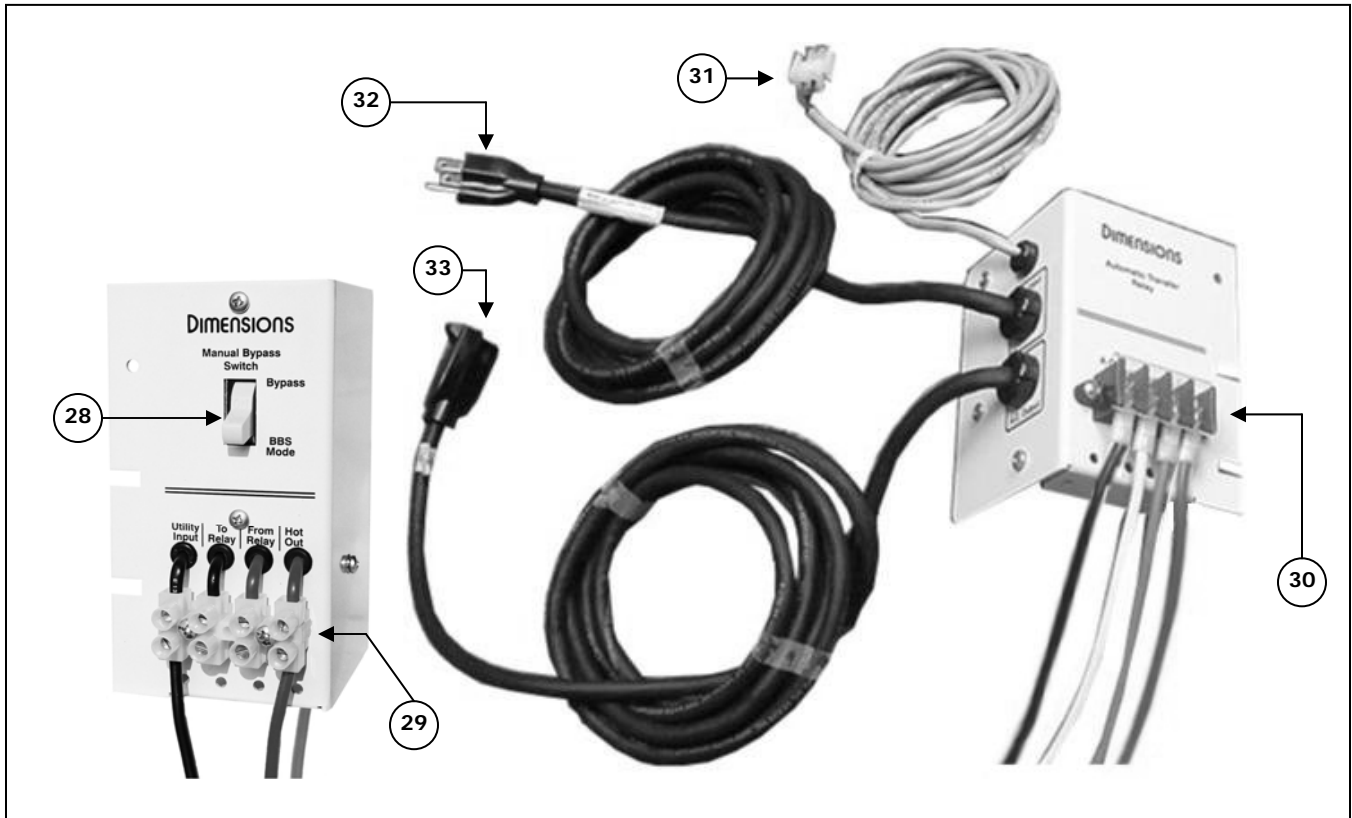

FIGURE 2: MBPS and 30ATR physical description
- (1) **Input Breaker:** Trips to protect utility power from a BBS short circuit.
- (2) **Output Breaker:** Trips to protect the BBS from a load short circuit.
- (3) **Battery Capacity:** Indicates a ratio of battery capacity level.
- (4) **Battery Charger On:** The green LED lights only when external AC power is present to indicate that the battery charging is engaged.
- (5) **Battery Charger Full:** The green LED lights only when external AC power is present to indicate that batteries are fully charged.
- (6) **Check Battery:** Yellow LED indicates a problem in the batteries or the battery cable.
- (7) **Relay A – On Batt:** Green LED lights to indicate that the BBS is in Inverter mode.
- (8) **Relay – B – Low Batt:** Green LED lights when the system is in Inverter mode and the useful battery capacity remaining is at the reference level chosen by user (40% in most applications).
- (9) **Relay – C – 2 Hr. Time:** Lights only to indicate that the BBS has been in Inverter mode for more than two hours.
- (10) **BBS AC Receptacle Cord:** Connects to the 30ATR or CMBPS-30ATR AC plug item 32 in Figure 2 below.
- (11) **BBS AC Connector Plug:** Connects to the 30ATR or CMBPS-30ATR receptacle cord item 33 in Figure 2 below.
- (12) **Dry Relay Connector Board:** Wiring connector board.
- (13) **Temp. Comp. Sense Wire:** Three-pin connector connects to a 9ft extension wire to the negative battery post.
- (14) **Battery Connector Cable:** Enables fast connection to batteries, Red (+) and Black (-) marks.
- (15) **Inverter On:** Green LED lights only if the power switch has been set to "On" to indicate that the DC to AC inverter is on.
- (16) **Inverter – Shutdown – Low Batt:** Red LED lights to indicate that the battery voltage has dropped to 42VDC and will shutdown in five seconds due to a low voltage condition.
- (17) **Inverter – Shutdown – Overload:** Red LED lights to indicate that the power demand by the load is larger than the power the BBS can deliver. The inverter will shutdown in five seconds due to an overload condition.
- (18) **Inverter – Shutdown – High Temp:** Red LED lights to indicate that the internal electronic circuit temperature has exceeded the maximum operating temperature limit. The inverter will shutdown in five seconds due to a high temperature condition.
- (19) **Power On/Off Switch:** Turns the inverter "On" or "Off" and activates or deactivates the dry relay contacts as well.
- (20) **Battery Voltage Test Point:** Attach voltmeter probes to check the battery voltage at the inverter.
- (21) **Meter Reset Button – Number of Outages:** Push to reset the inverter Number of Outages Meter.